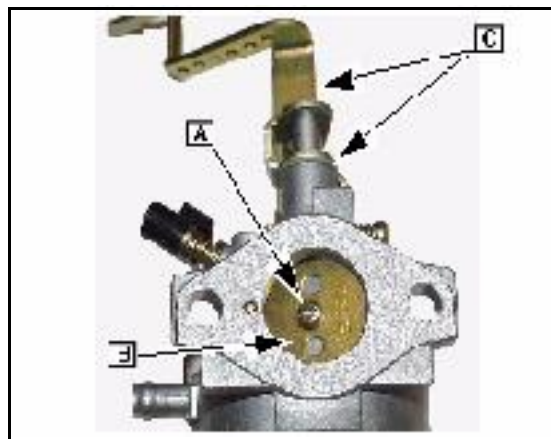

Fig. 35
11. Remove screw and lock washer (A) from throttle plate (B) and remove throttle plate.
12. Lift out throttle shaft and plastic washer ([C] Fig. 35).